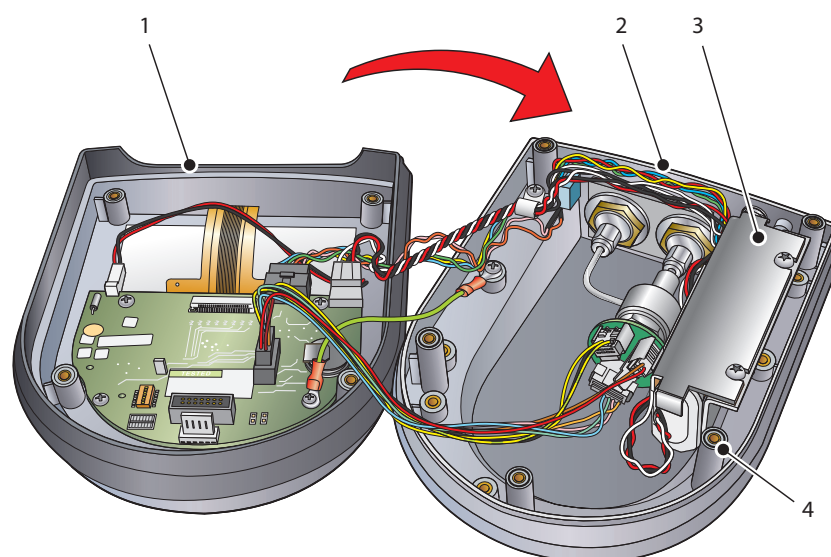

Figure 2 *Open Case*
5. Open the two halves of the casing. **NOTE: There is a seal between the two halves so the top and bottom halves may need to be eased apart. There should also be an O-ring (see *Figure 2*, (4)) on each of the five pillars - keep these safe for later use.**
6. Place the two halves of the casing (1) and (2) side by side (refer to *Figure 2*). Item (3) shows the battery retaining clamp.